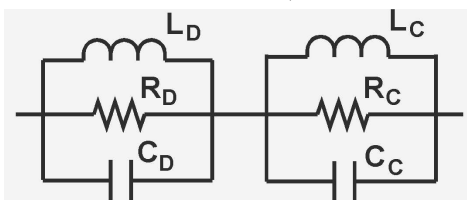

Fig 1
**Series and Parallel Equivalent Circuits:** The fundamental equivalent circuit of a ferrite choke at radio frequencies simplifies to two parallel resonant circuits, wired in series, as shown in Fig 1. All ferrite chokes have a **circuit resonance** formed by inductance and resistance coupled from the core and parasitic (stray) capacitance between the two ends of the choke.  $L_C$ ,  $R_C$  and  $C_C$  describe this **circuit** resonance. For a single turn (a wire goes through the core once), the core itself is the dielectric, and the resonance is typically in the range of 150 MHz. We form a choke that is useful at HF by winding multiple turns through the ferrite core. Like all inductors, the inductance ( $L_C$ ) is multiplied by the square of the number of turns ( $N^2$ ), and because the resistance is coupled from the core,  $R_C$  is also multiplied by  $N^2$ . Parasitic capacitance is both through the core and also between turns, and increases approximately linearly with  $N$ . The result is that the resonance moves down in frequency and the resistance at resonance gets much larger.